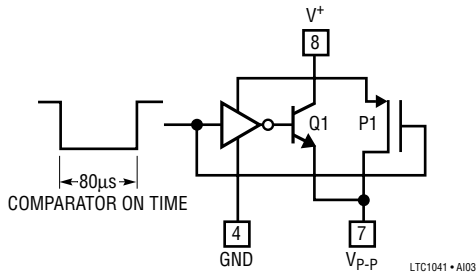

Figure 3. Vp-p Output Switch
Figure 3 shows the  $V_{P-P}$  output circuit. The  $V_{P-P}$  output voltage is not precisely controlled when driving a load (see typical curve of  $V_{P-P}$  Output Voltage vs Load Current). In spite of this, high precision can be achieved in two ways: (1) driving ratiometric networks and (2) driving fast settling references.